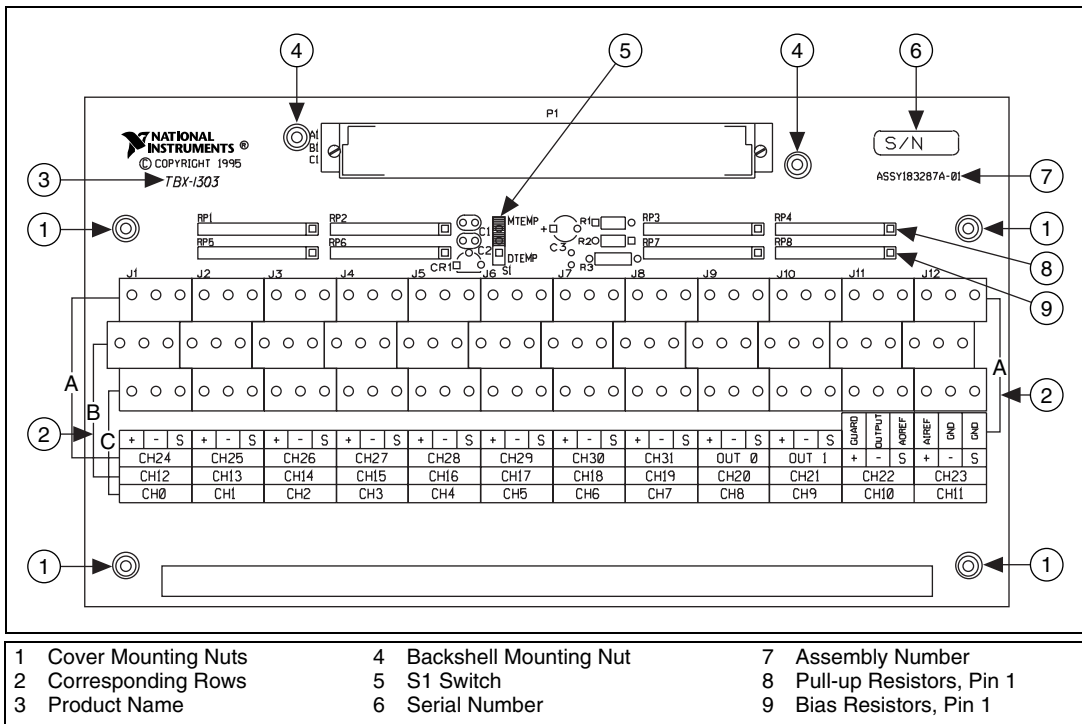

Figure 4. TBX-1303 Parts Locator Diagram
Note The GND terminals are connected to the SCXI module chassis ground through the cable, not the shield. In addition, each channel has its own shield terminal (labeled **S** on the board) for connecting signal shields. The TBX-1303 has corresponding rows labeled **A**, **B**, and **C**, as shown in Figure 4, to help you make the correct connections.
- Multiplexed temperature sensor (MTEMP) mode—set the TBX-1303 terminal block switch S1 to the MTEMP position. This setting is the factory default. Refer to Figure 4 for the location of switch S1.
A package of four 10 M Ω resistor networks is included in the TBX-1303 kit. You can install these resistor networks as RP5, RP6, RP7, and RP8. Refer to Figure 4 for placement. With this configuration, thermocouples are either ground-referenced or floating.
Use long-nose pliers to remove or replace the resistor networks in the sockets; be careful not to damage the network package. Make sure pin 1 of each network is in the correct socket. Refer to Figures 4 and 7 for correct network placement.
Use long-nose pliers to remove or replace the resistor networks in the sockets; be careful not to damage the network package. Make sure that pin 1 of each network is in the correct socket. Refer to Figures 4 and 7 for correct network placement.